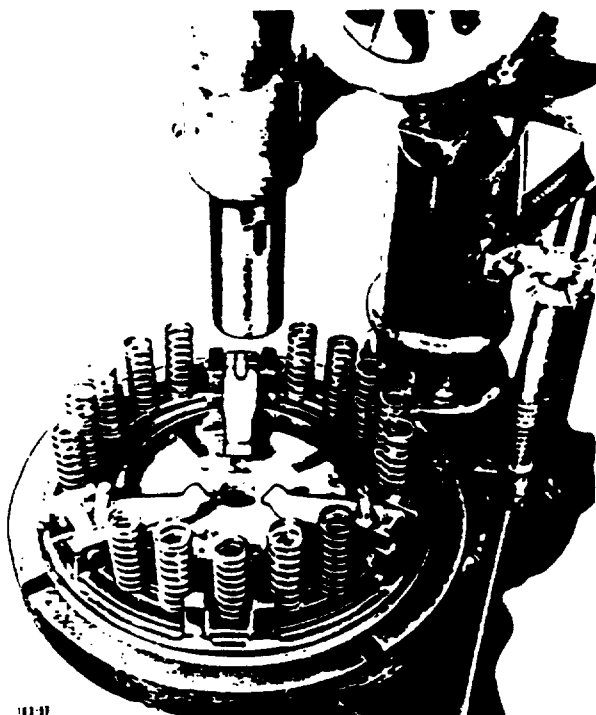

Figure 4-12. Assembling Clutch
2. Place pressure springs in position on pressure plate, as shown in Figure 4-12.